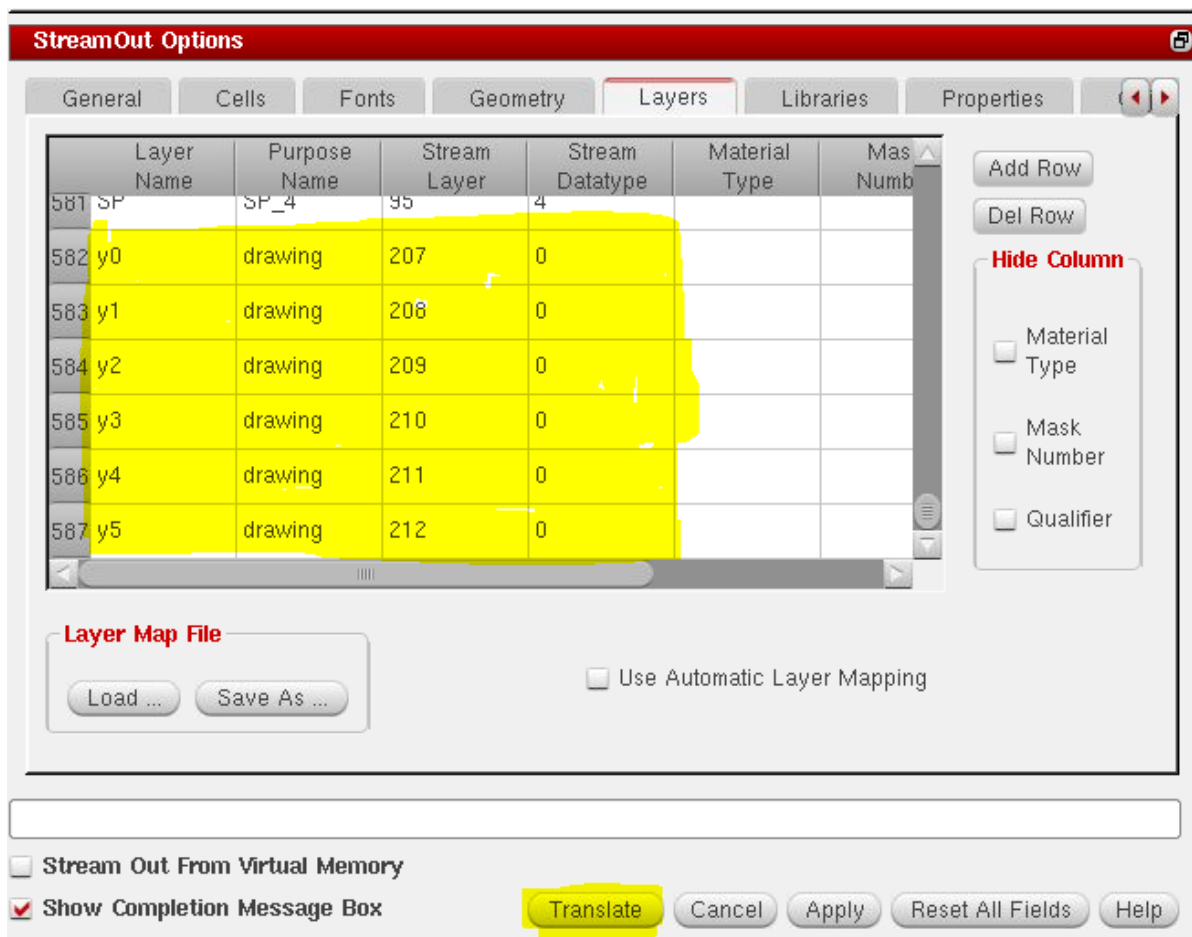

Figure 7: Adding layers during stream out.
- Please do not load the layer table which contains the layers (y0-y4) during export as this will result in the loss of the technology layers from the exported GDS and your design will appear as an empty spot in the place of the die. Please add these extra layers (y0-y4) to the existing technology layer table as shown in Figure 7.